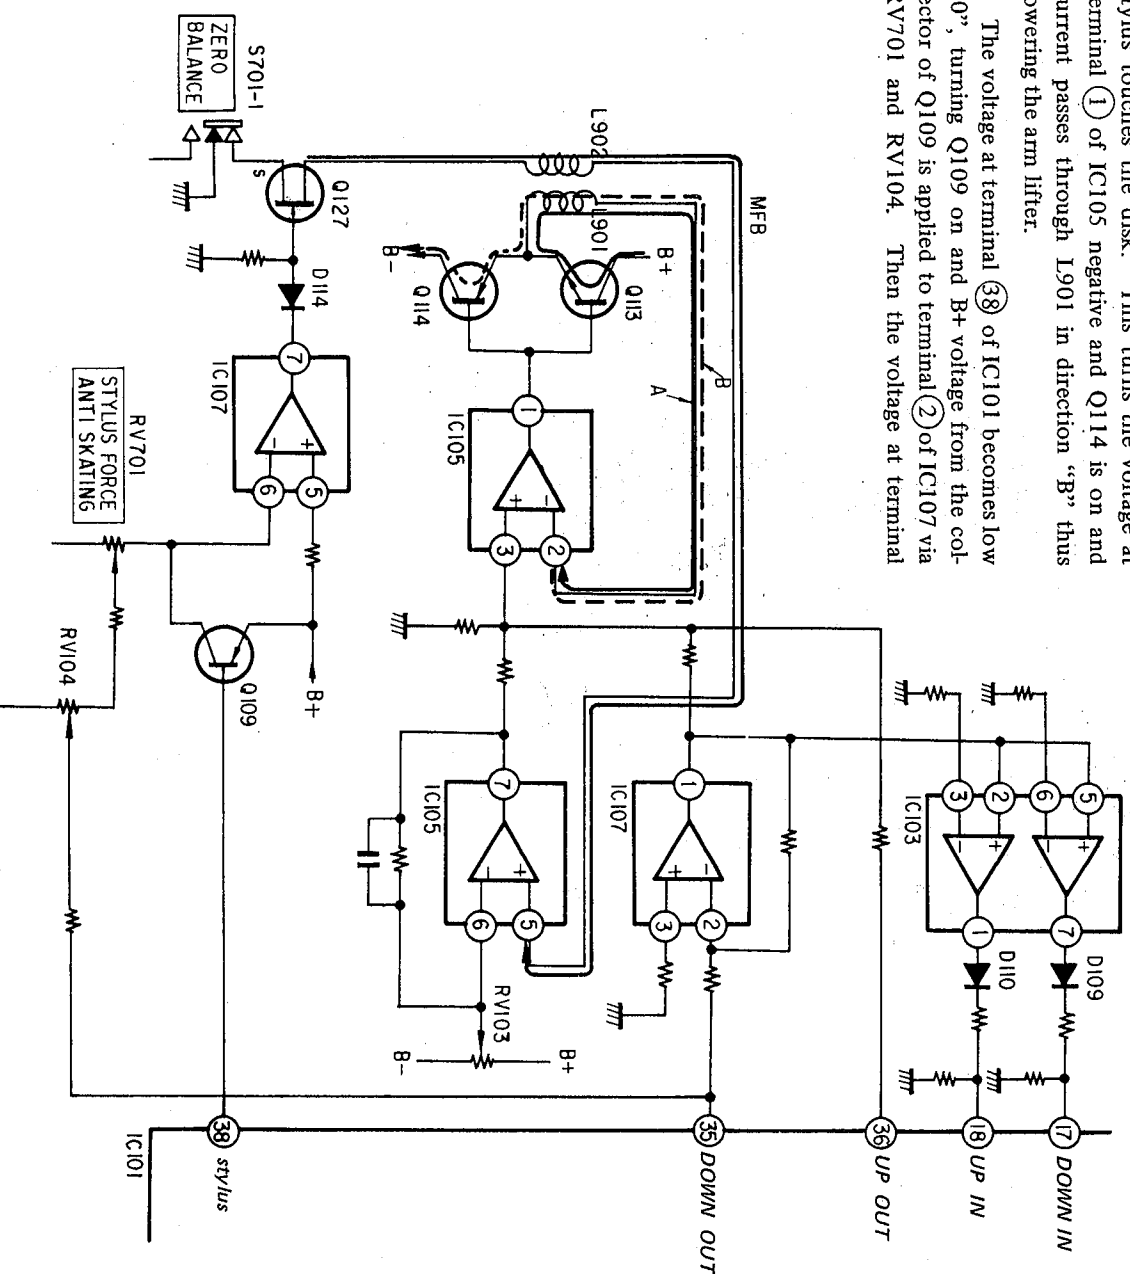

Fig. 3
3. Tonearm Lifting Circuit (See Fig. 3):